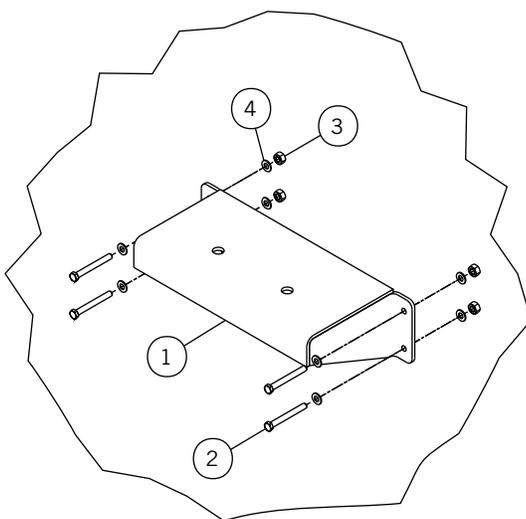

Figure 27-3
- 2) **Figure 27-3.** Use supplied hardware to mount the mounting bracket to the trailer.